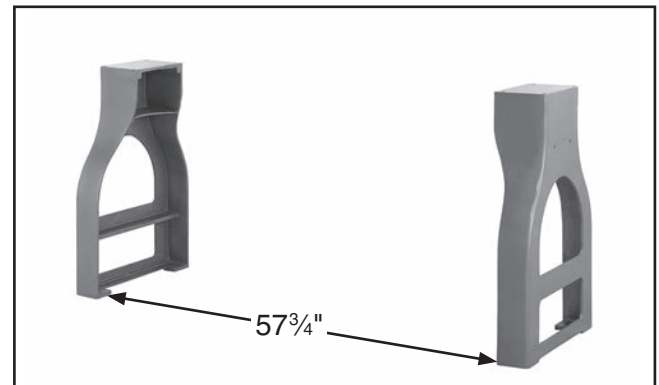

Figure 12. Supporting legs.
1. Position right and left stand legs upright approximately 57³/₄" apart, and get them reasonably aligned (see **Figure 12**).